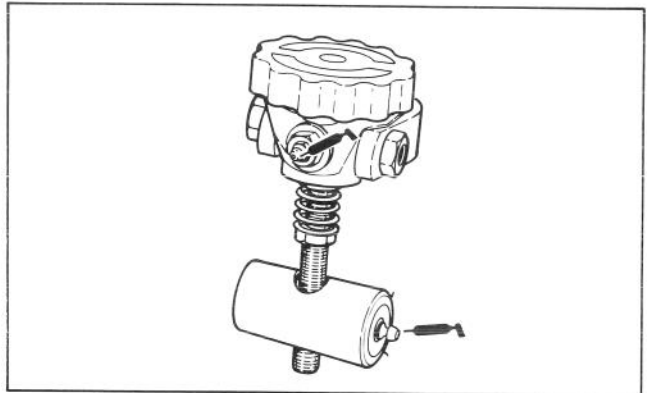
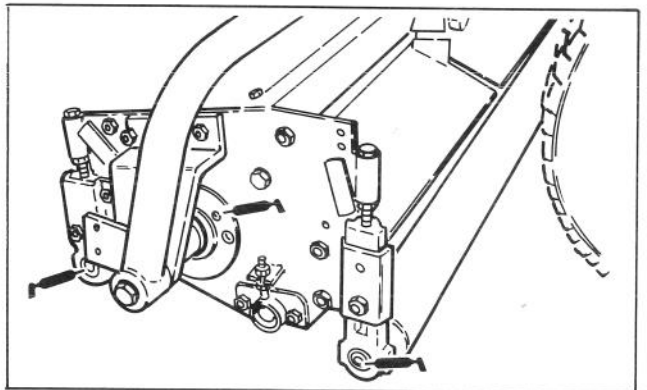

Figure 28
Figure 29
The cutting unit lubrication points are: Single point knob adjustment knob (2) (Fig. 28), reel flange bearing (2) (Fig. 29) and front and rear rollers (Fig. 29).